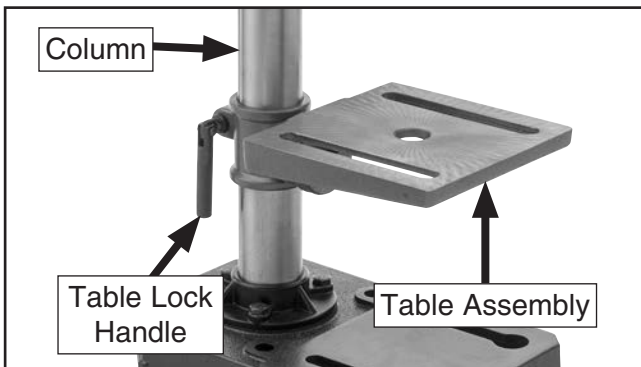

Figure 10. Table secured on column.
2. Slide table assembly onto column, centering table over base (see **Figure 10**), and secure with table lock handle.